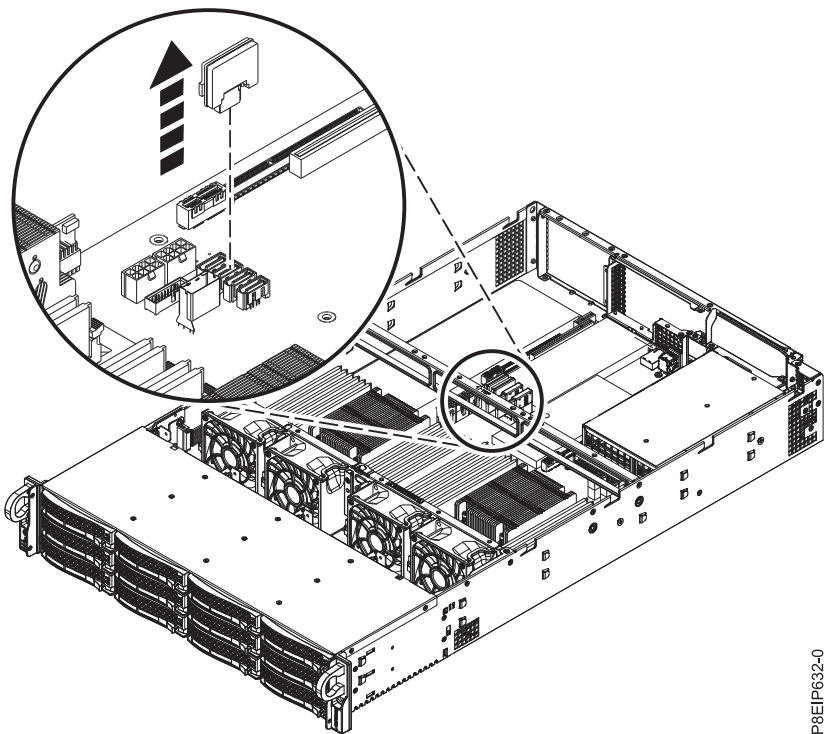

Figure 9. Removing a DOM
2. Remove the DOM from the system backplane as shown in Figure 9.